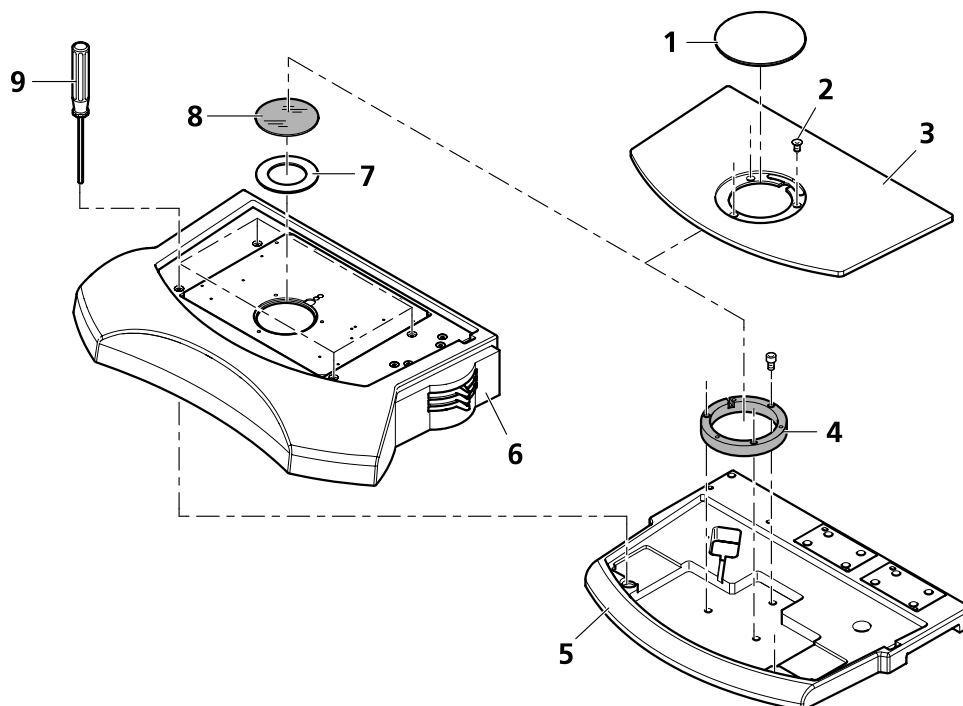

Fig. 14 Installing the transmitted-light equipment S
- If the adapter ring (Fig. 14/4) is not mounted (e.g. after the removal of the transmitted-light equipment S), use three Allen screws (SW 3) to fasten it to the stand base (Fig. 14/5); then, put the insert plate (Fig. 14/3) onto the base.
- Fasten the insert plate (Fig. 14/3) without stage adapter to the adapter ring (Fig. 14/4) by means of three short Allen screws (Fig. 14/2).
- Remove the insert plate (Fig. 14/3). To this end, loosen the three short Allen screws (Fig. 14/2), lift up the insert plate (using the grip hollow at the right edge of the stand base (Fig. 14/5)) and, taking hold of it with both hands, remove it safely.
- Loosen the three Allen screws (SW 3) of the adapter ring (Fig. 14/4) with the ball-headed screwdriver and remove the adapter ring.
- Put the transmitted-light equipment S (Fig. 14/6) laterally correct onto the stand base. Verify that the two large plastic taper pins on the bottom of the transmitted-light equipment S engage with the respective holes of the stand base.
- Use the ball-headed screwdriver (Fig. 14/9) to screw down the four countersunk Allen screws (SW 3) hand-tight on the transmitted-light equipment S.
- Put the insert plate (Fig. 14/3) onto the transmitted-light equipment S (Fig. 14/6).
- Insert the opal glass plate $\varnothing$ 84 mm (Fig. 14/8) to avoid that screws and other small parts get lost during the further installation work.
- Using the three, short Allen screws (Fig. 14/2) fasten the insert plate (Fig. 14/3) (without stage - adapter) to the transmitted-light equipment S.
- Replace the opal glass plate $\varnothing$ 84 mm (Fig. 14/8) by insert 52/84 (Fig. 14/7).
- Insert the 120 mm glass plate (Fig. 14/1); to remove it again, press on its rear edge.